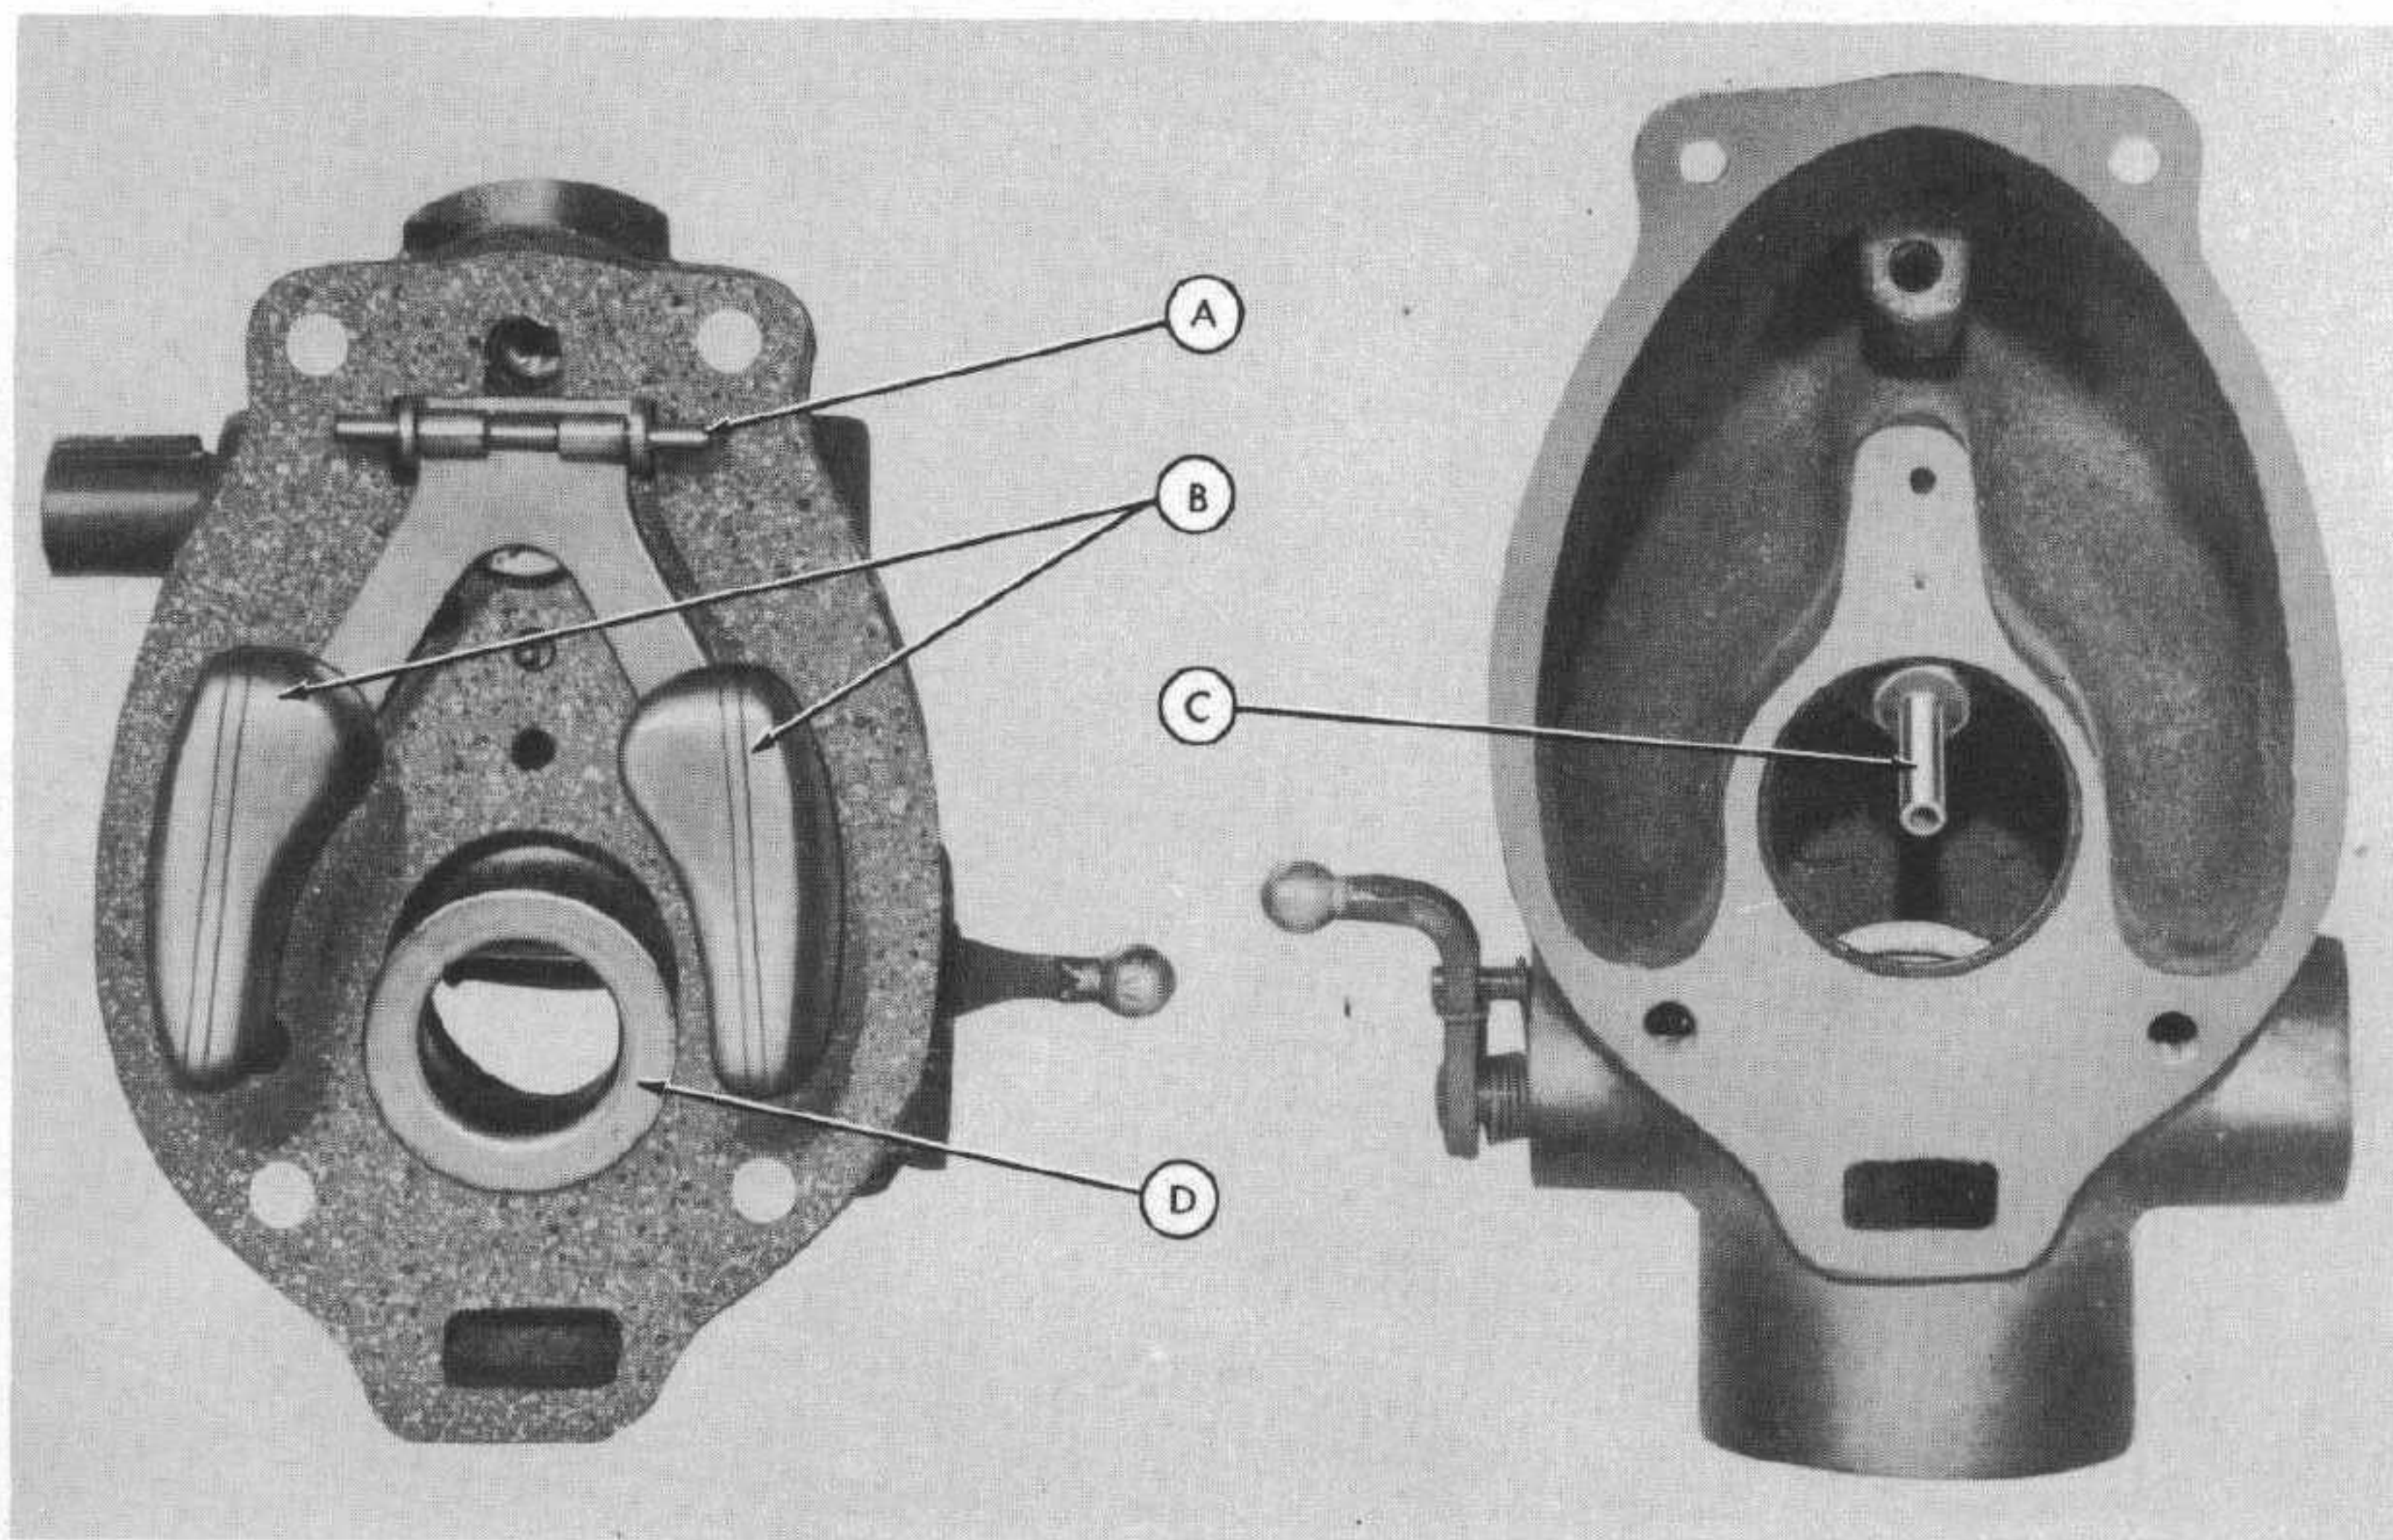

Fig. 3
- Step 5—Pull the pin (A-Figure 3) and remove float (B-Figure 3).
- Step 6—Remove the gasket and the venturi tube (D-Figure 3).
- Step 9—Remove the main jet (C-Figure 3).